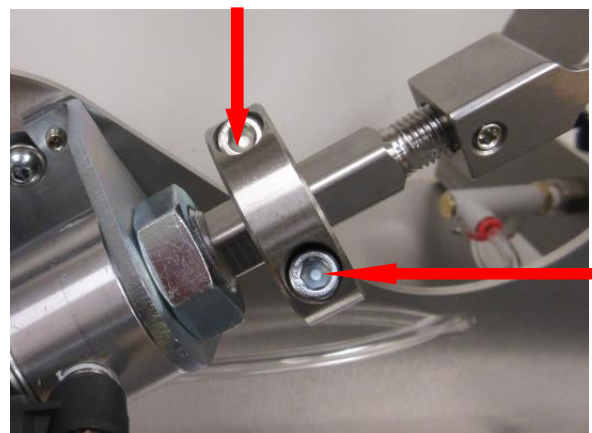

Figure 4
- Break loose the two (2) bolts on each of the three (3) stop collars using a 3/16" hex wrench. Position the stop collars at the same indicator mark on all three (3) cylinder shafts and retighten the bolts. (Figure 4)